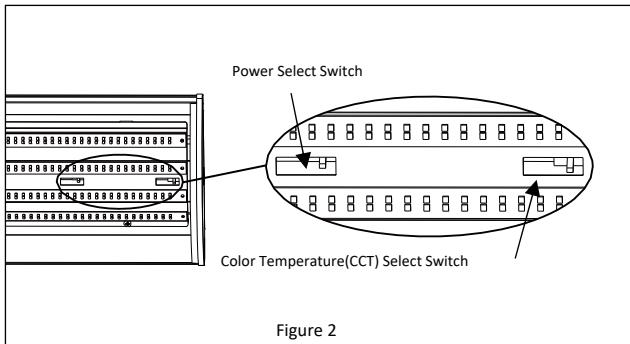

Figure 2
6. Select the desired CCT and power for the environment in which the fixture is installed. *See Figure 2.*